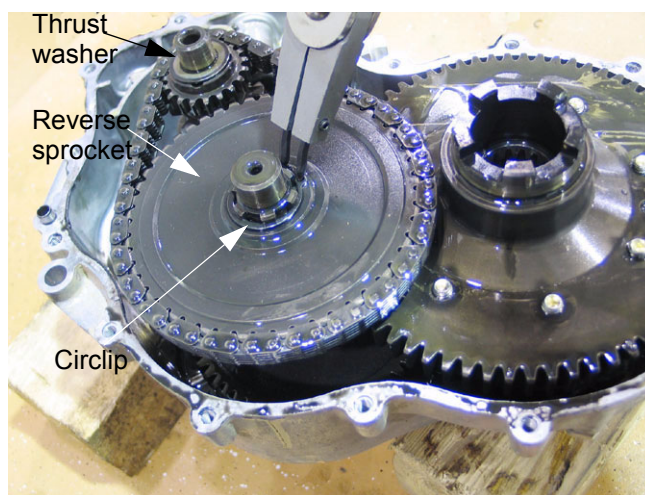

Figure 9.33
9.33. Remove the 25 mm circlip that secures the 51-tooth reverse sprocket to the reduction shaft using a pair of retaining ring pliers. See Figure 9.33.